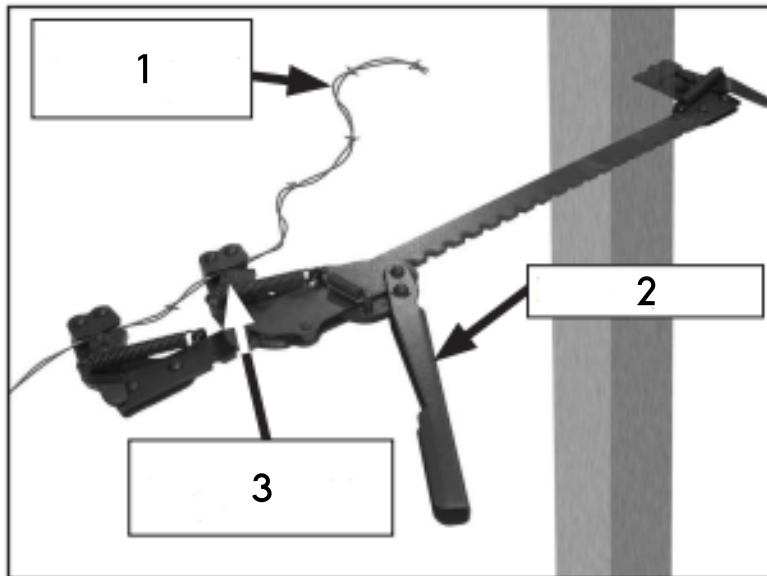

Figure 4
4. Clamp the fence wire in the mobile hook of the clamping jaw (Fig. 4).